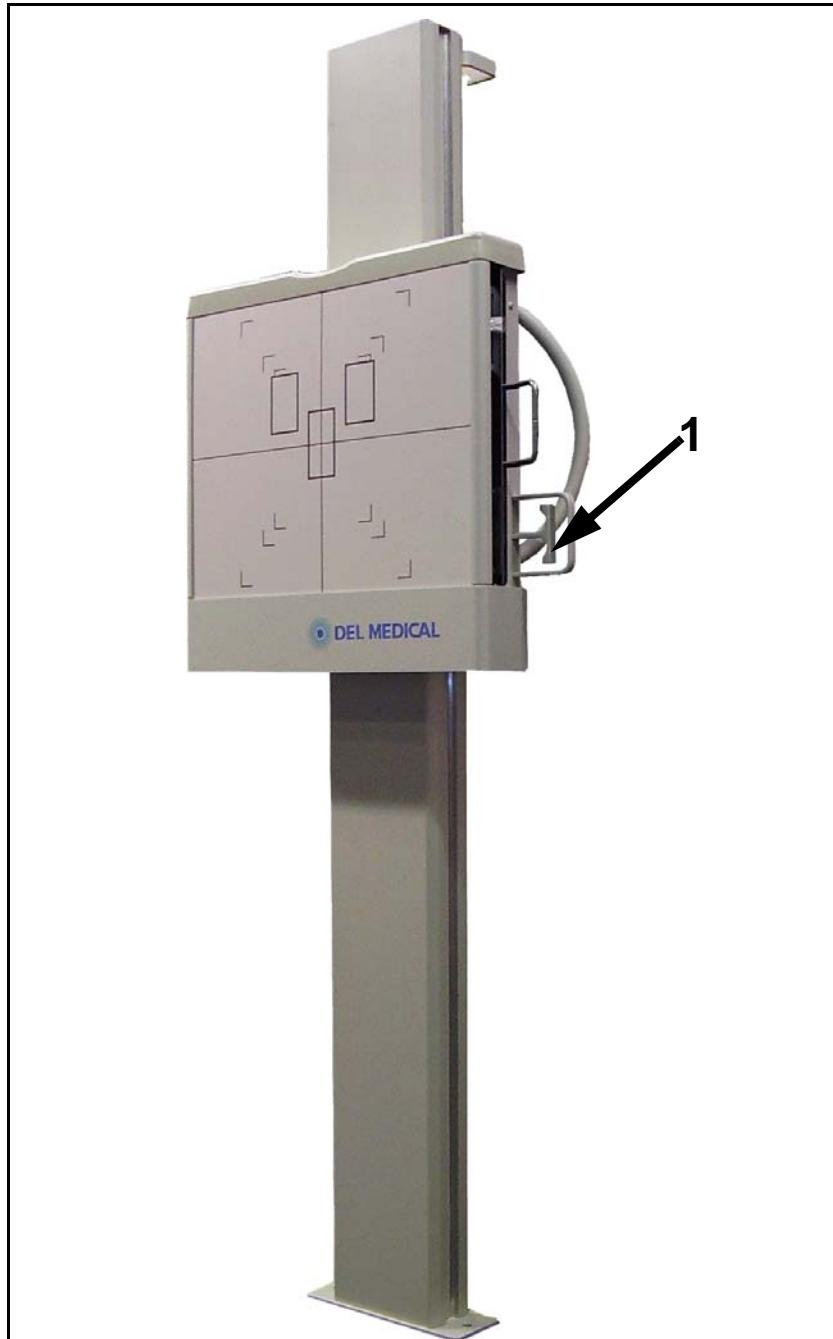

Figure 4-2. Release Brake Handle
- 1 Repeatedly squeeze and release brake handle (1 in Figure 4-2) while moving cassette tray holder through full range of motion. If brake shows any sign of weakness, adjust it according to Section "Adjusting Brake Cams" on page 5-3.